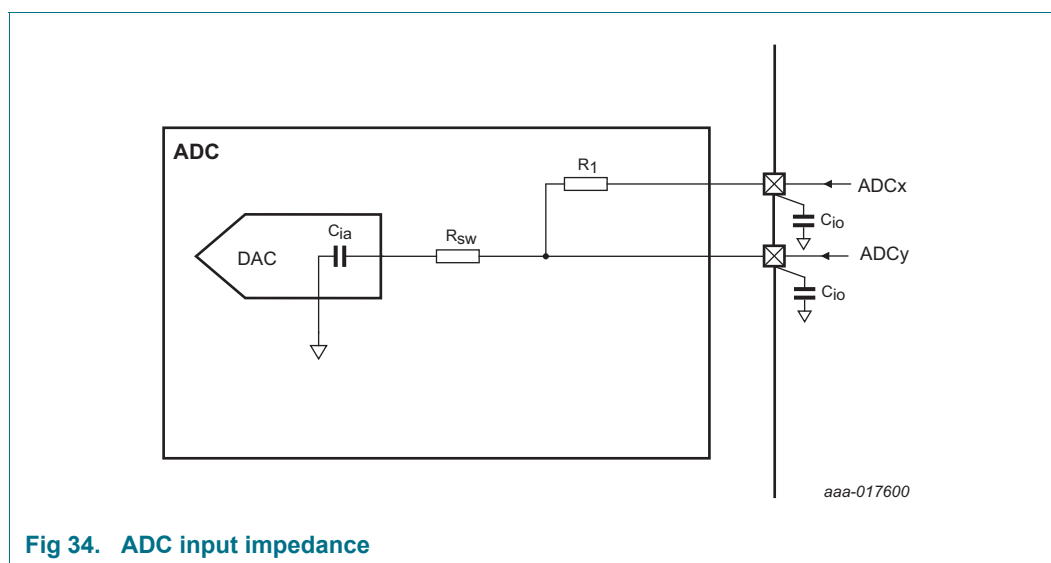

Fig 34. ADC input impedance
- [5] The differential linearity error (E_D) is the difference between the actual step width and the ideal step width. See Figure 34.
- [6] The integral non-linearity ($E_{L(adj)}$) is the peak difference between the center of the steps of the actual and the ideal transfer curve after appropriate adjustment of gain and offset errors. See Figure 34.
- [7] The offset error (E_O) is the absolute difference between the straight line which fits the actual curve and the straight line which fits the ideal curve. See Figure 34.
- [8] The full-scale error voltage or gain error (E_G) is the difference between the straight line fitting the actual transfer curve after removing offset error, and the straight line which fits the ideal transfer curve. See Figure 34.
Figure 34 shows the ADC input impedance. In this figure: